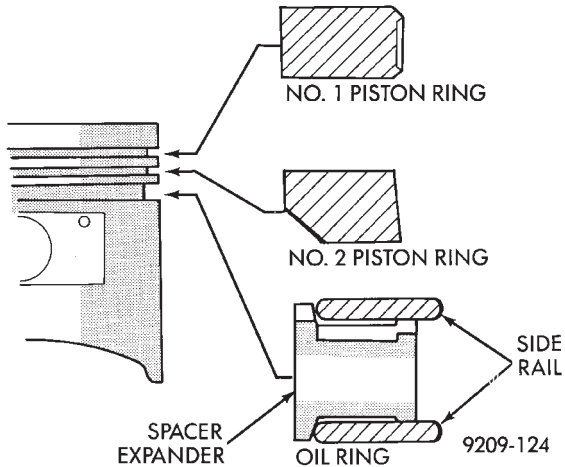

Fig. 90 Piston Ring—Installation
(1) The No. 1 and No. 2 piston rings have a different cross section. Install rings with manufacturers I.D. mark facing up, to the top of the piston (Fig. 90).